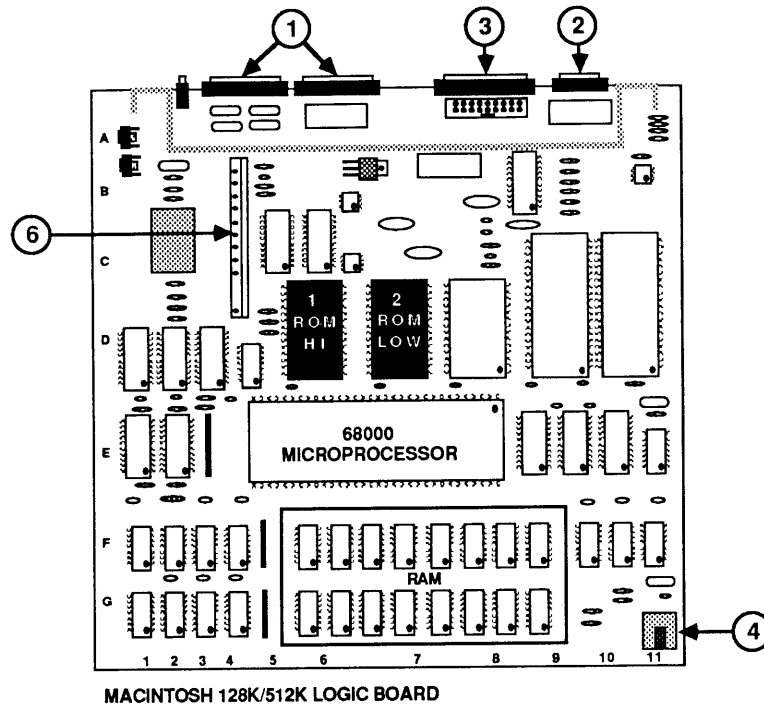
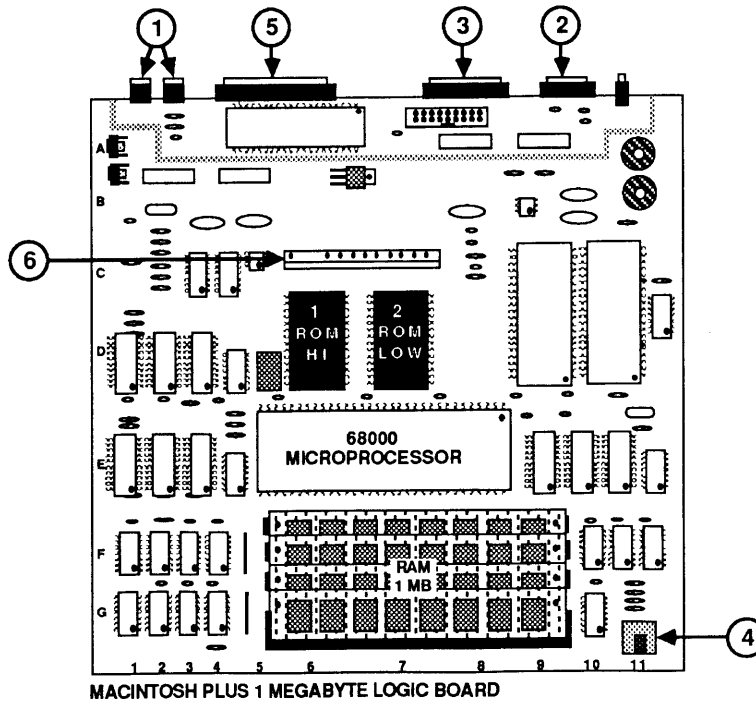

FIGURE 1
FIGURE 2
- 7.3 Macintosh External Housing (Figure 1)
(Figure 2)
The numbers at the left of the list below correspond to the locations on both Figure 1 (Macintosh) and Figure 2 (Macintosh Plus) unless otherwise noted.